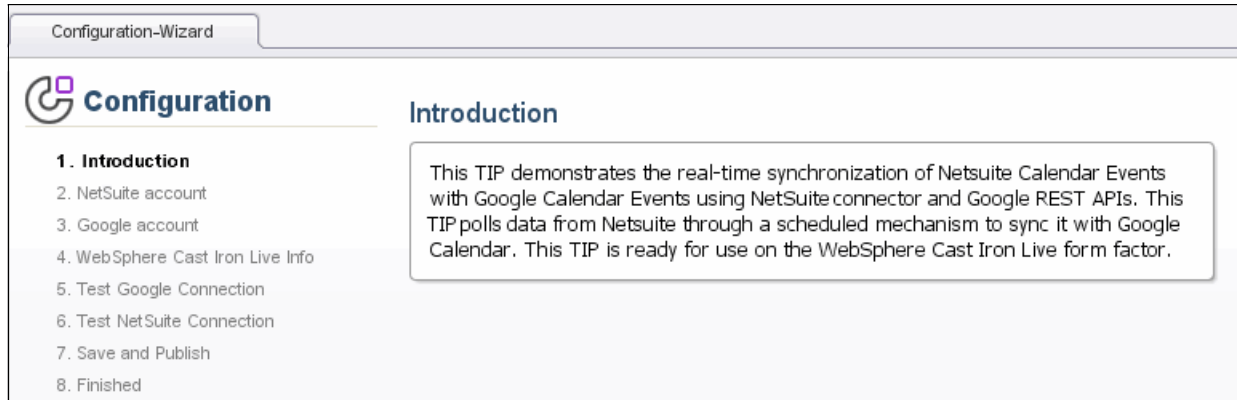

Figure 11-8 TIP configuration wizard step 1: Introduction window for the TIP configuration
- Click **Create a project based on this template**. A new browser window opens that shows an Initializing status bar. When complete, the TIP Configuration Wizard opens in the new browser window and displays the Introduction step, as shown in Figure 11-8. Click **Next**.